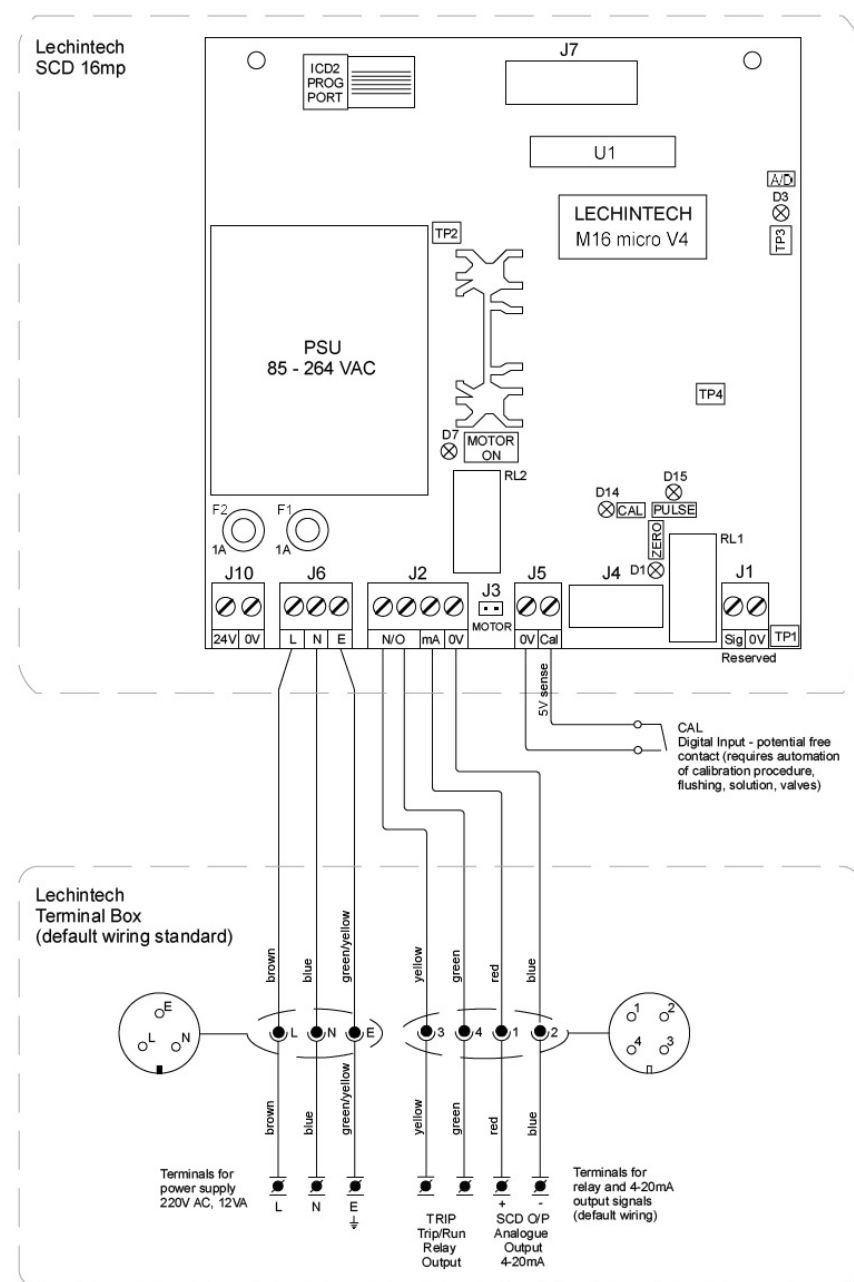

Figure 5: SCD 16mp PCB and Terminal Box electrical connections
Power supply and signal connections to be made to terminals provided on the SCD motherboard or to Lechintech terminal box (if supplied) as in Figure 5 below.
An auto calibration facility is provided for on the SCD 16mp and may be initialized locally from the menu system via the keypad and LCD display or remotely by momentarily shorting J5 terminals, 0V and Cal as shown in Figure 5.
1. Activate auto zero relay, RL1 (Figure 5). The LCD display will indicate Calib SCD Zero 80 on the top line. The value on the right is a countdown timer for the calibration time. This timer is required to allow for the response of the low pass signal filter. The calibration time is measurable but is limited to a minimum of the filter time constant (FTC) value x 8. The Calib Time and SCD FilterTC parameters are set in units of 250ms.
When Calib 4mA is selected from the menu, its digital value may be increased or decreased using the INC and DEC buttons while the mA analogue output is measured across J2 terminals, mA and 0V (Figure 5) or in series with dosing control system connection, with a multimeter. Once the 4mA output has been calibrated, the keypad ENTER button is pressed to save the parameter in EEPROM.
Zeroing the SCD 16mp should give 12 mA across J2 terminals, mA and 0V (Figure 5) for confirmation of linearity.